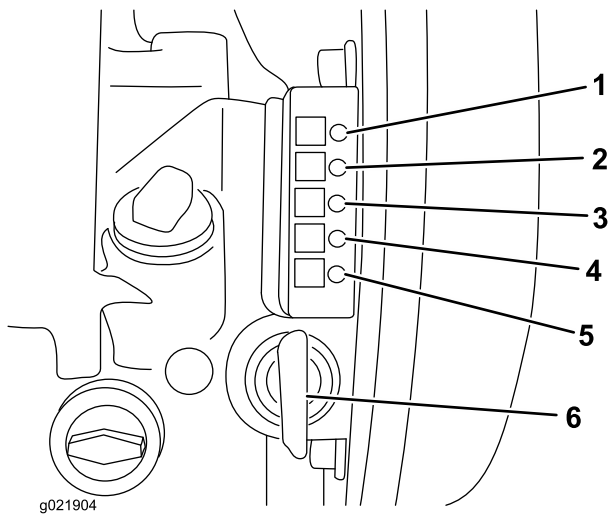

Figure 13
2. Insert the key into the starter switch and rotate it clockwise to start the engine (Figure 13).
3. **Model 68075 only:** Rotate the key counterclockwise to the Off position (all indicator lamps will turn off) and remove key from the starter switch (Figure 13).